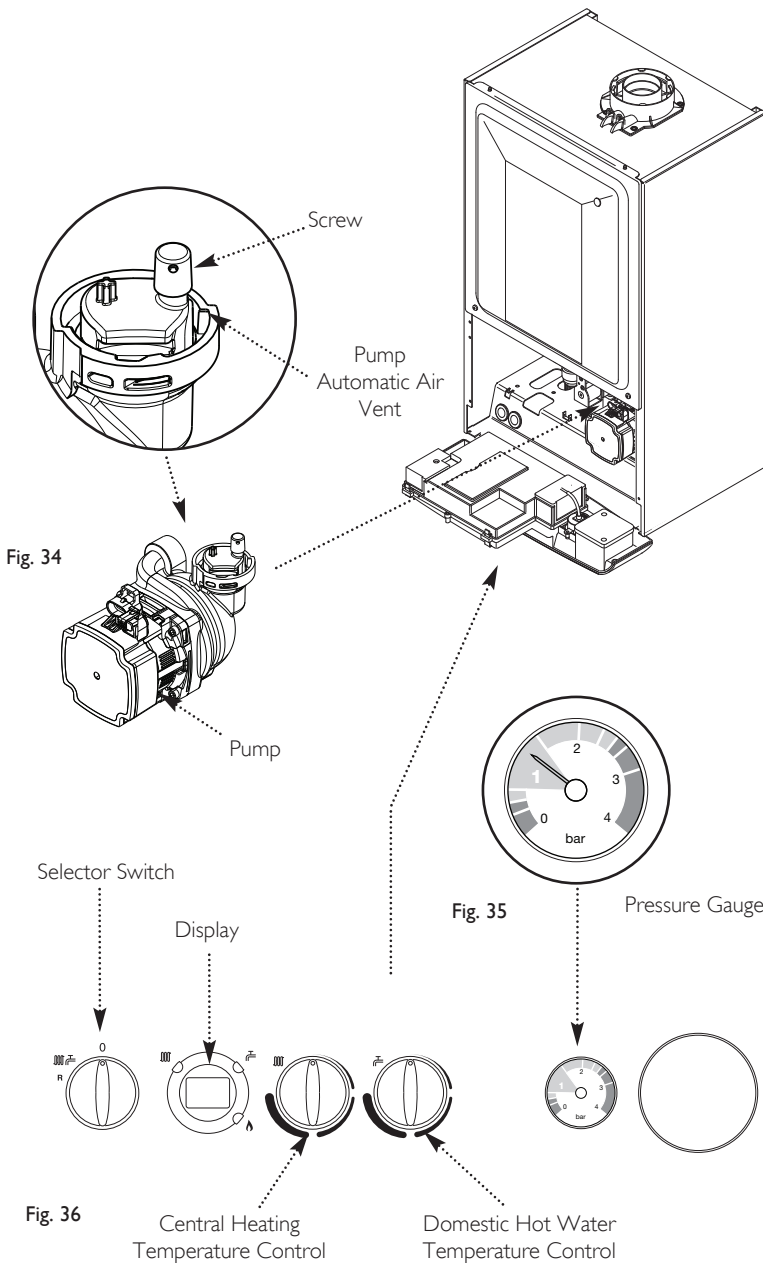

Fig. 34
- Open the screw on the automatic air vent on the pump body (Fig. 34).